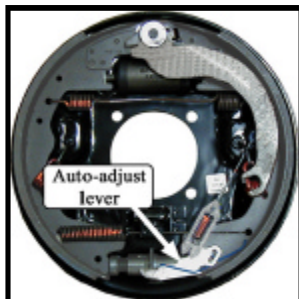

Figure 1
8. Disconnect the auto-adjust lever from the brake shoe (figure 1).